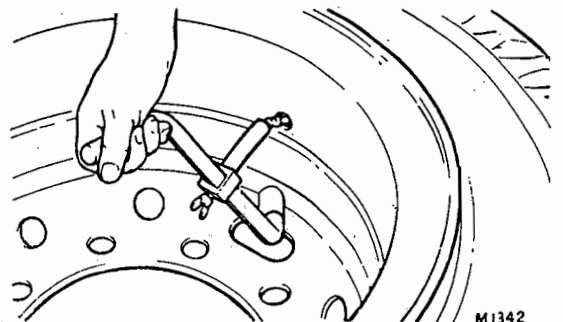

FIG. 4. VALVE STEM REMOVED
4. Push the valve stem back into the wheel base, Fig. 4.